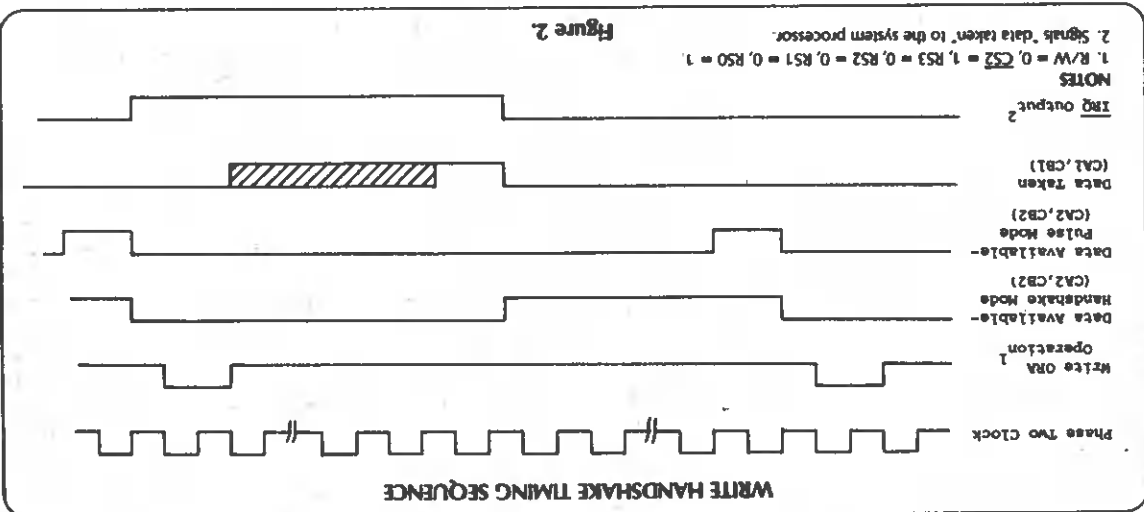

Figure 2.
FIGURE 2: Circuit Diagram for a 4-bit Digital to Analog Converter. For more details and a circuit analysis, refer to H. V. Malmstadt and C. G. Enke, Digital Electronics for Scientists (W. A. Benjamin, Inc., New York, 1969), pp. 333-335.
**Write Handshake.** The sequence of operations which allows handshaking data from the system processor to a peripheral device is very similar to that described for Read Handshaking. However, for "Write" handshaking, the processor must generate the "Data Ready" signal (through the MCS5522) and the peripheral device must respond with the "Data Taken" signal. This can be accomplished on both the PA port and the PB port on the MCS5522. CA2 or CB2 acts as a Data Ready output in either the DC level or pulse mode and CA1 or CB1 accepts the "Data Taken" signal from the peripheral device, setting the interrupt flag and clearing the "Data Ready" output. This sequence is shown in Figure 2.